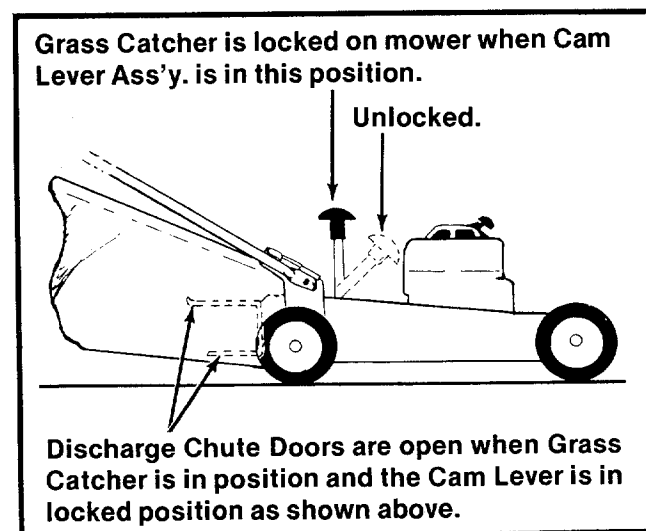

FIGURE 12.
2. Pull cam lever back and down to lock grass catcher on mower. This automatically opens rear discharge doors on mower. See figure 12. To remove the grass catcher, unlock the locking lever and lift off the grass catcher.